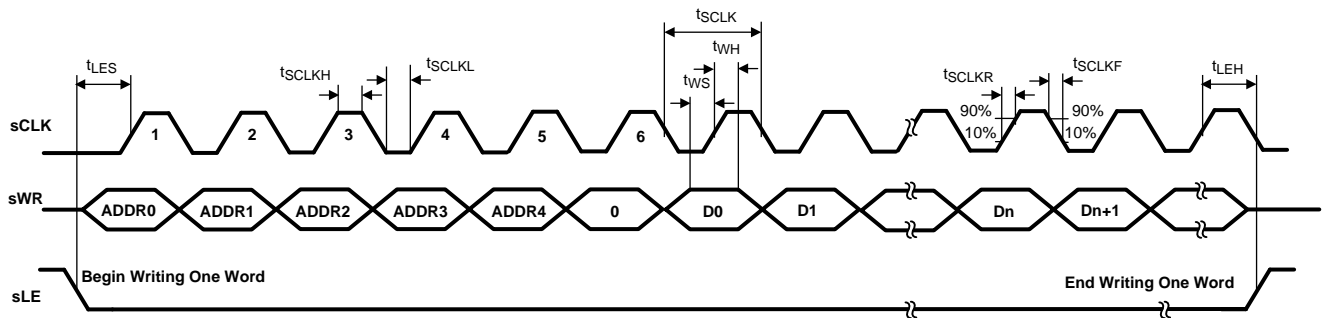

Figure 3. 4-Wire Serial Interface WRITE Timing
The pulse patterns and delay settings can be programmed into and read out from the individual channel controls via a four-wire serial interface. When the Latch Enable signal (sLE) is low, the targeted on-chip registers can be written through the serial data Write pin (sWR) at the positive clock edge (sCLK). In the same way, they can also be read out through the serial data Read pin (sRD). The writing and reading operations have the same timing requirements, which are shown in Figure 3 and Figure 4. The serial data stream starts with a 6-bit address, in which the first 5-bits identify the mode of updating which is interpreted by the Finite State Machine (FSM), and the sixth bit of the address indicates the 4-wire serial operation, either “WRITE” (0) or “READ” (1). The address is followed by the data word, whose length can vary from 8 bits to 64 bits. The data stream starts with the LSB and ends with the MSB. The first 5-bit address indicates which of the 27 registers is being accessed. The register map is shown in Table 4. In each 4-wire serial operation, only one register can be written to or read from at a time. TX_EN must be inactive during 4-wire serial interface operation.